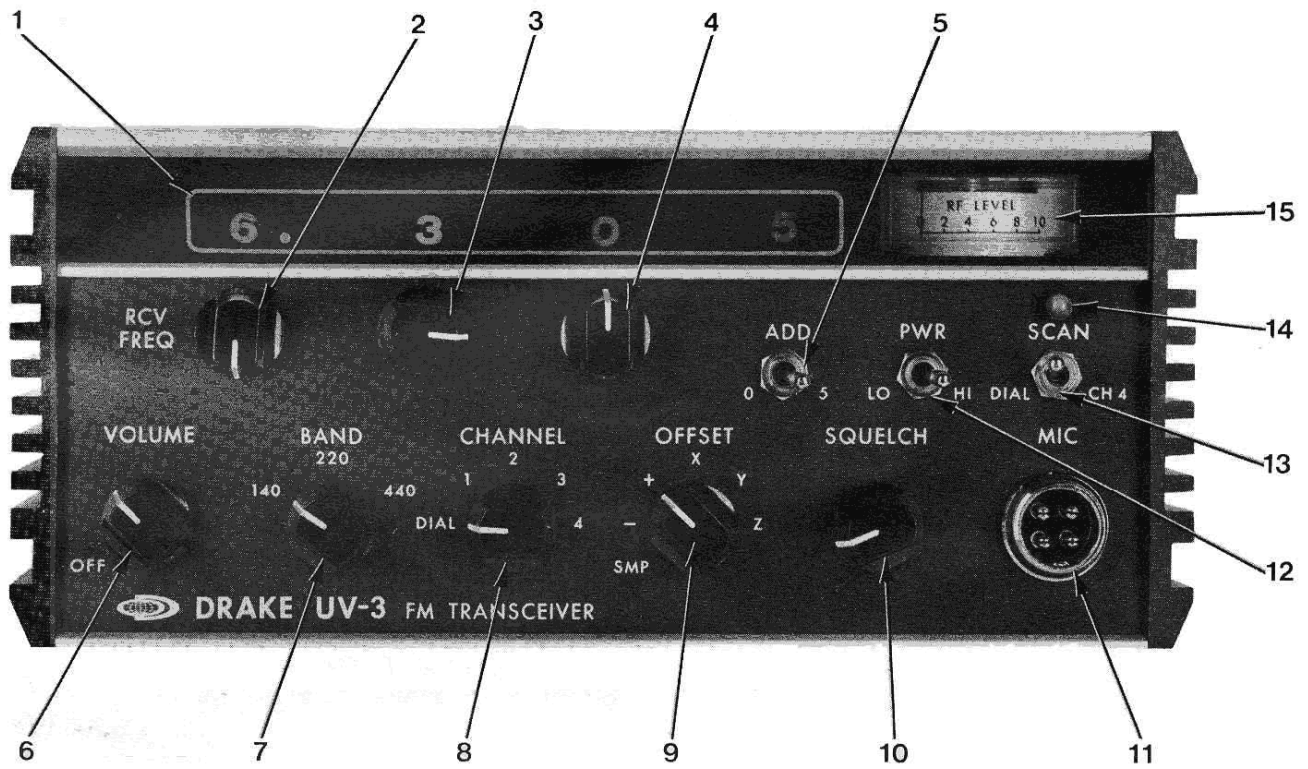

Figure 3-1. Front Panel Controls
Figure 3-1 shows a view of the UV-3 front panel controls and connections. The function and operation of each control will be described opposite the illustration.
In normal operation, the receive frequency is selected by adjusting the frequency selector switches (Items 2, 3, 4, and 5 in figure 3-1) until the desired frequency is shown on the transceiver readout. The term "Normal Operation" refers to operating the transceiver with the CHANNEL selector in the "Dial" position, and the SCAN switch in the center or "off" position. The BAND switch must be correctly set in order to obtain the desired receive frequency. For example, in the "140" position, the BAND switch actually programs 140 into the frequency synthesizer. The remaining digits of the desired receive frequency are then selected by adjusting the three rotary switches beneath the display window. If 5 kilohertz is required, it is added to the value shown on the readout by selecting a "5" on the ADD switch.
Figure 3-1 shows the front panel controls of the UV-3. Item (8) indicates the CHANNEL selector which allows selection of the receive frequency shown on the readout, or a receive frequency as programmed on the 140 PROGRAM BOARD or 220/440 PROGRAM BOARD. With the CHANNEL selector in the "DIAL" position the transceiver will *receive* the frequency indicated by the BAND switch and the readout. The proper transmit offset is then selected by the OFFSET switch. *The OFFSET switch selects an offset only when the CHANNEL selector is in the "DIAL" position.* When the CHANNEL selector is in "1", "2", "3", or "4" the receive frequency *and* transmit offset are determined by the diode programming on the program boards. Selecting the transmit offset from the program boards allows operation of repeaters having nonstandard offsets.
Figure 3-1 shows the front panel controls of the UV-3. Item (13) denotes the SCAN selector which is used to determine the mode of scanning. When the switch is in the center position all scan operations are disabled and operation of the UV-3 is described above. With the SCAN switch in the "DIAL" position the transceiver receives the frequency as determined by the setting of the BAND
and CHANNEL selectors. Approximately every 3 seconds the transceiver internally switches to the frequency selected by the BAND switch and DIAL readout. If activity is present on the frequency indicated by the DIAL, the transceiver continues to receive that frequency until the activity ceases for 2 seconds. After the 2 second delay, the transceiver switches back to the frequency selected by the BAND and CHANNEL selectors. If no activity is present on the DIAL frequency, the transceiver only receives that frequency for approximately 50 milliseconds and returns to the original receive frequency. The SCAN LED indicator, Item (14) of figure 3-1, indicates when the transceiver is receiving the DIAL frequency. If no activity is present on the DIAL frequency, the SCAN LED indicator flashes briefly every 3 seconds. If there is activity on the scanned frequency, the SCAN indicator remains lighted to indicate the activity on that frequency.